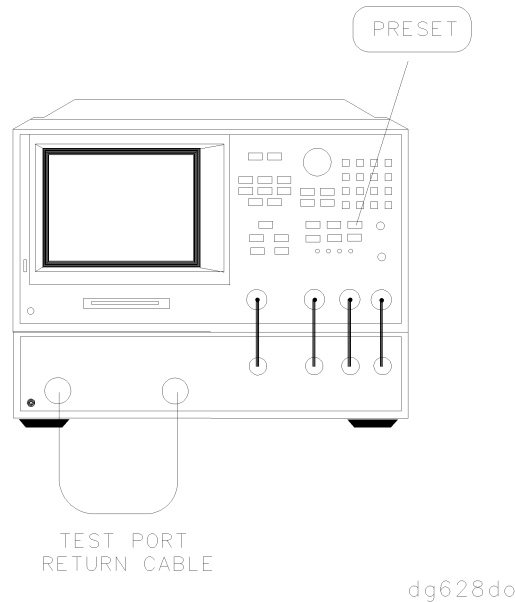

Figure 1-22. Transmission Load Match Connections
- 11 Connect the equipment as shown in Figure 1-22 and press PRESET.